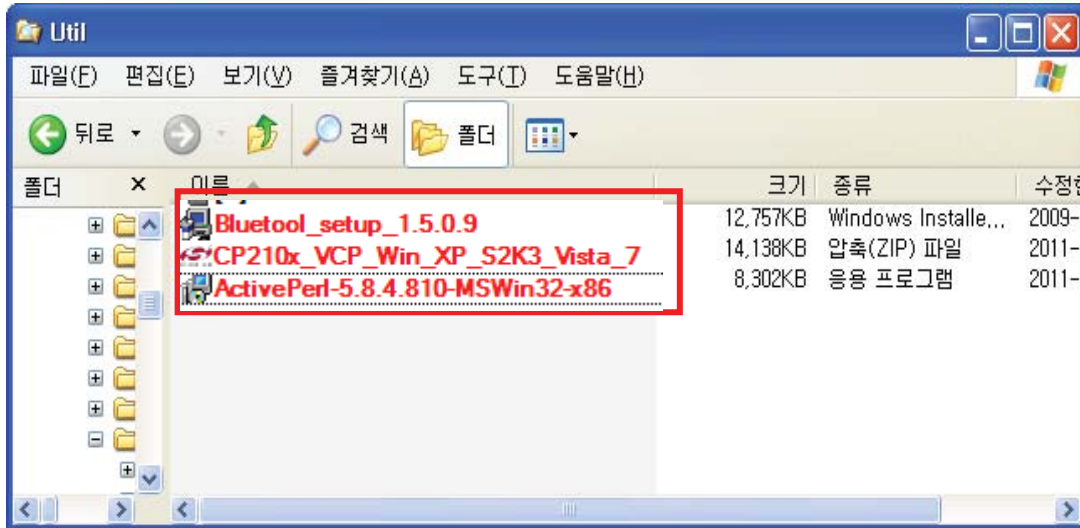

Fig.1
as Fig.1
2. Select “시작→설정→제어판→ 시스템” in PC [Fig.1] and Device Manager[Fig.2] to see if the driver is successfully installed by activating its port.